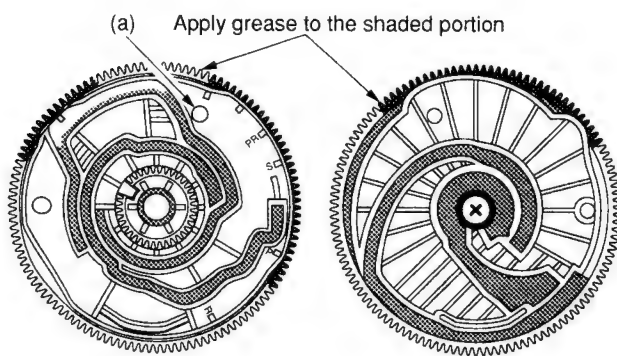

Fig. 6-28-1
6. Apply grease on a new cam gear on the shaded portion as shown in Fig. 6-28-1 and the shaft of the main base.
8. Push the cam lever (1) and the pin (2) (loading slider) in the direction shown by the arrows (A) and (B).
9. Mount the cam gear at the angle which the small hole (a) on the cam gear aligns with the hole on the mechanical deck. (Refer to Fig. 6-28-1.)